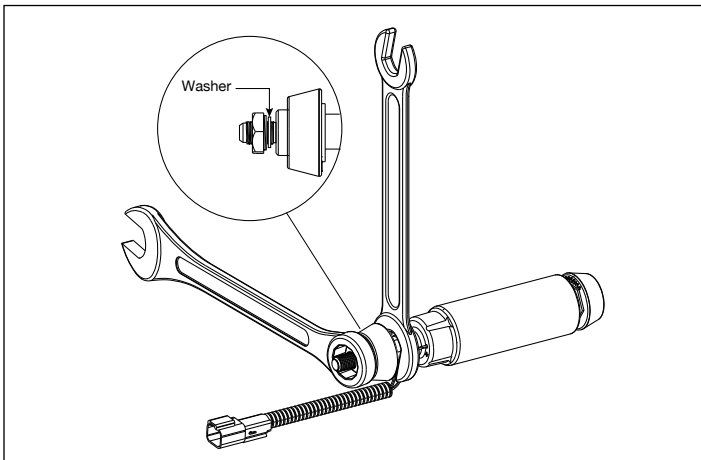

Figure 6 - Removing the Primer Pump Fitting
6. Remove the fitting on the end of the pump using two wrenches to hold the end stationary as the fitting is loosened. (See Figure 6).